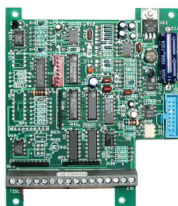

FIGURE 1. Top view of electronic Forward-Brake-Reverse Board showing components and connections to speed potentiometer and F-B-R Switch
- 1. Select Braking Resistor**—A 100 Ohm 25 Watt resistor is connected to the board for use with control Models 0810 and 0815. For control Models 0830 and 0835, the 100 Ohm resistor should be replaced with the 50 Ohm 25 Watt resistor. For control Models 0850 and 0855, the 100 Ohm resistor should be replaced with the 25 Ohm 25 Watt resistor included in the kit. Simply remove the two screws and nuts holding the 100 Ohm resistor to the board (**Figure 1**) and fasten the proper resistor in its place, using the same screws and nuts.
3. Insert the 4-pin connector from the F-B-R Board into connector J2 on the driver board (**Figures 1 and 3**).
4. Insert the ribbon cable provided in your F-B-R Kit into J1 on the driver board (**Figure 3**) and J8 on the F-B-R Board (**Figure 1**).
(1) Identify the wired connector for the speed pot and F-B-R Switch or speed and direction input signals (**Figure 1**). Refer to Manual No. 07400156 for instructions for making electrical connections. After connections have been made, insert the connector into J7 on the F-B-R Board.
(3) Insert the ribbon cable from J3 of the analog board (**Figure 2**) to J7 of the F-B-R Board (**Figure 1**).